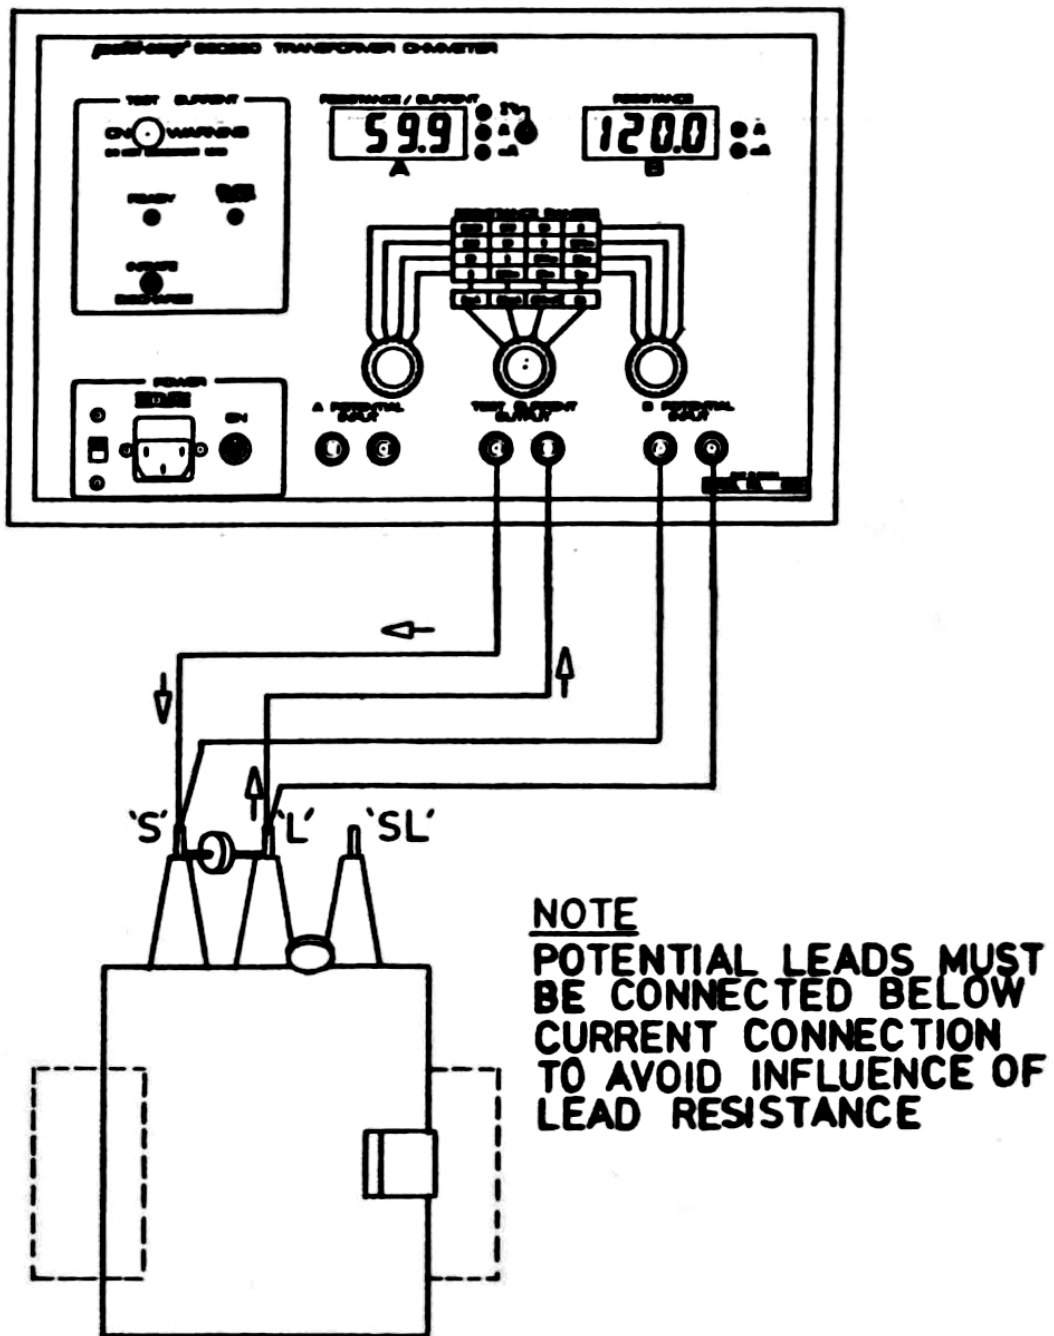

FIGURE 18: CONNECTION TO A REGULATOR
See Figure 18 for connection to the voltage regulator.
- a. Display Selector (14): up position.
- b. Range Selector "A" (12): left most position.
- c. Range Selector "B" (13): right most position.
- d. Current Selector (11): 5A nominal (guide by resistance table on face plate).
3. Connect current output (9) to test specimen winding.
4. Connect "B" potential input (10) to test specimen winding. Do not clip potential leads on to the current leads, since this will add contact resistance to the measurement. Potential leads should always be placed inside (between) current leads. See Figure 18.
5. Turn power switch (1) "ON". "READY" L.E.D. (5) should illuminate.
6. Push current control switch (4) up to initiate current flow. Release when current indicator (7) comes ON.
7. Display "A" (15) indicates current output (in %). As output current approaches steady value, display "B" (16) comes on and indicates resistance of specimen.
8. The range switch "B" (11) may require re-setting to a more suitable resistance range.
9. When measurement is complete, push the current control switch (4) down to terminate measurement and discharge current. Discharge is complete when current indicator (7) is off (black).